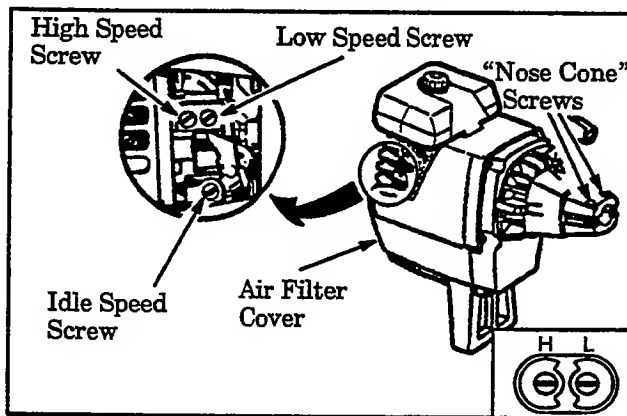

Figure 25
Turn the low speed screw and the high speed screw (Figure 25) clockwise until they stop. *Do not turn the screws until they are tight as damage to the needle seats can occur.*
2. Adjust idle speed screw (Figure 25) until engine continues to run without stalling and without blade or trimmer head moving.
- b. If the engine does not accelerate smoothly, turn the low speed mixture screw (Figure 25) counterclockwise a small amount (no more than the width of the slot in the adjusting screw).
2. Turn the low speed screw (Figure 25) slowly clockwise until the speed starts to drop. Note this position.
2. Turn high speed screw (Figure 25) very slowly clockwise until engine speed is reduced.